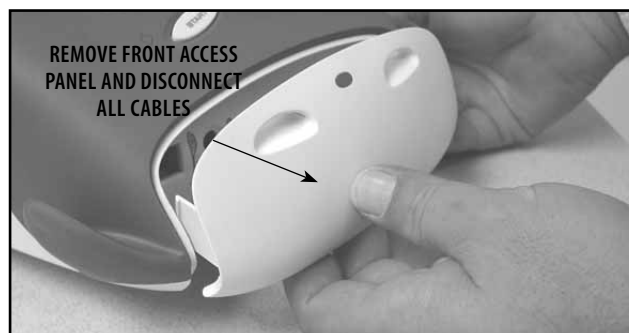

FIGURE 6.2
4. Remove the Front Access Panel and disconnect all existing cables and Lead Wires. See Figure 6.2.